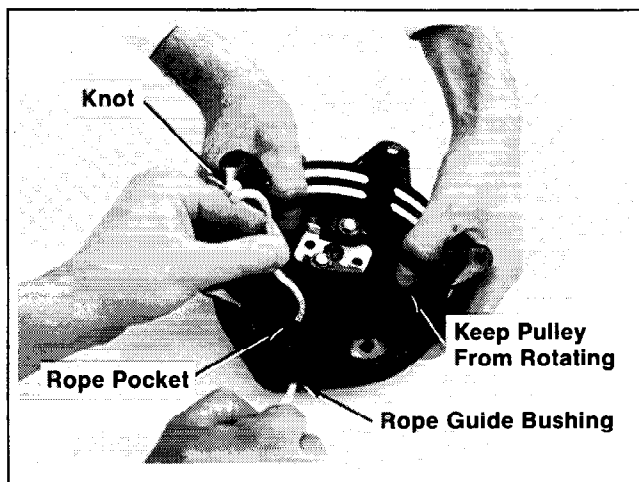

Figure 7-7. Installing Rope.
9. Insert the new rope into the rope pocket of pulley and through rope guide bushing in housing. Refer to Figure 7-7.